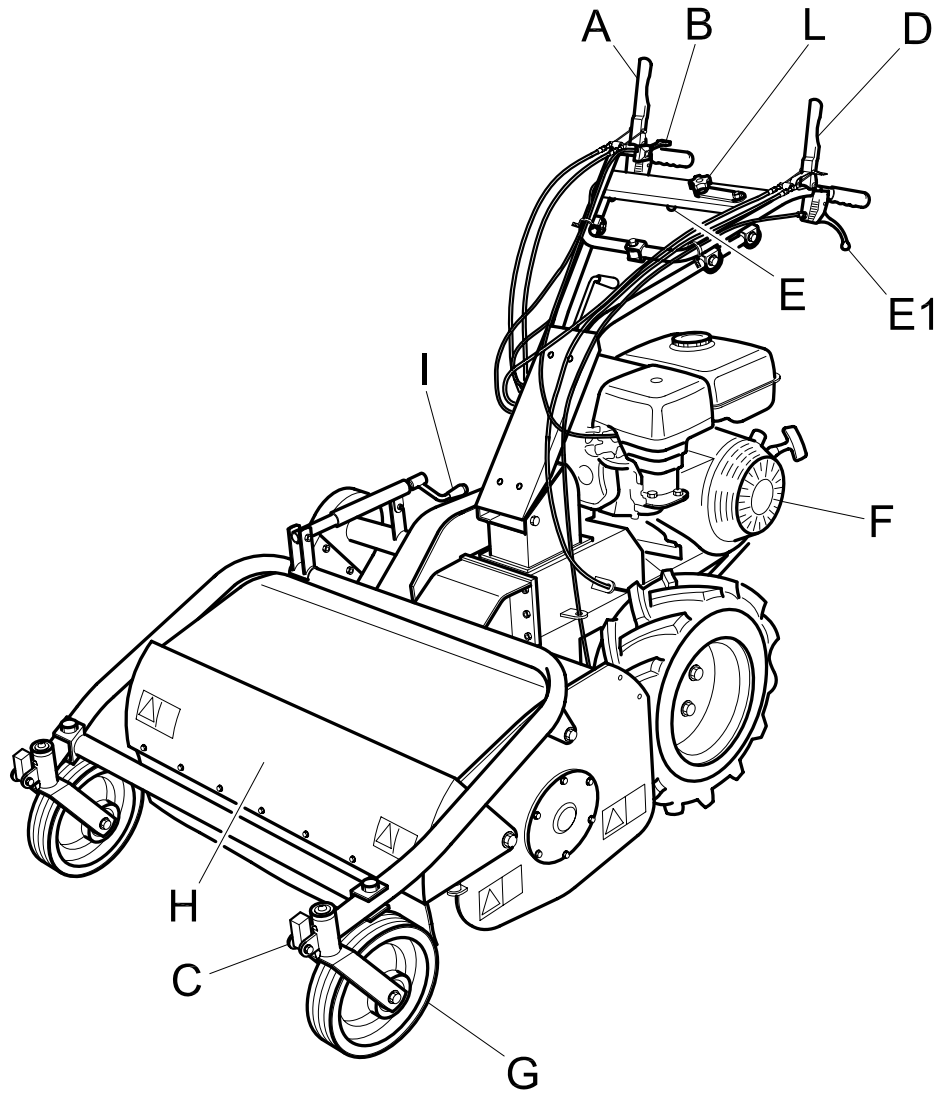
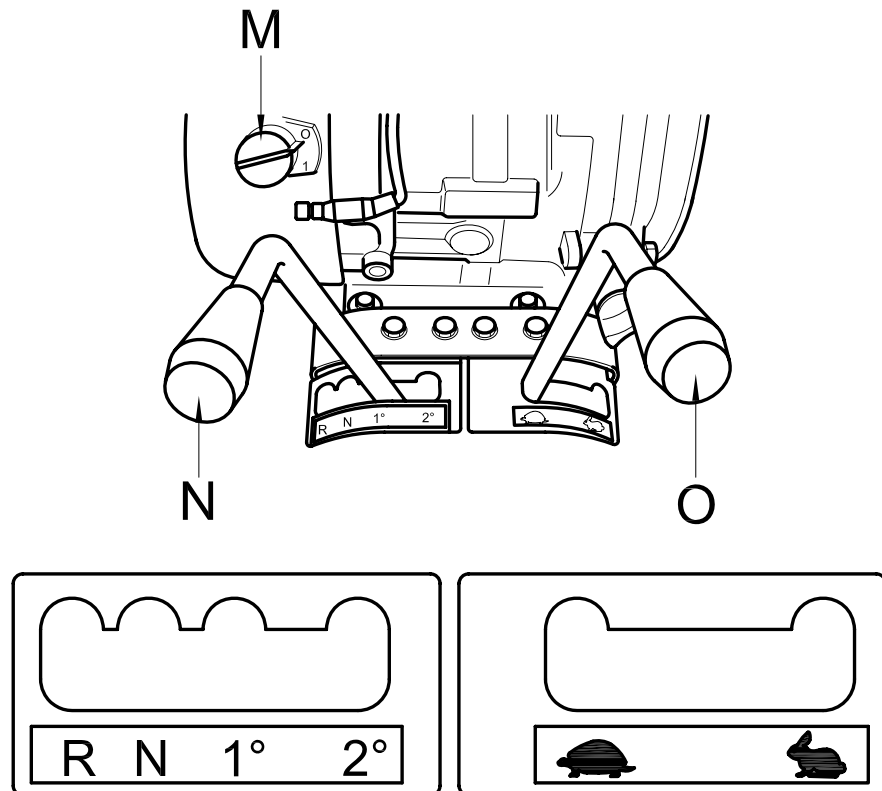

Figure 1
Figure 2
The front guard (Fig. 1 Ref. H) opens or closes automatically according to the amount of grass to be cut. Use of the machine with the guard left open is strictly prohibited. This may cause the outward projection of objects.
This handle is used to select the speed of the machine (slow/fast). Used in conjunction with the gear selector handle (Fig. 2 Ref. N) it offers 4 forward gears and 2 reverse gears.
Before operating the slow/fast speed handle (Fig. 2 Ref. O), the gear selector handle (Fig. 2 Ref. N) should be put into neutral gear (N). Then select the desired gear.
WHEN WORKING ON GRADIENTS ONLY USE THE SLOW SPEED BY KEEPING THE SLOW/FAST CONTROL HANDLE IN THE „SLOW” POSITION (Fig. 2)
Be sure to set the handle positions correctly (Fig. 2 Ref. N and O), making sure that the handles are correctly engaged; if they are not, engage the forward clutch lever momentarily (Fig. 1 Ref. A) so that the speed setting engages correctly. The above operation may prove particularly useful during the machine's first working hours.
- Before switching on the engine make sure that both engagement levers (forward clutch control lever - Fig. 1 Ref. A and flail clutch control lever - Fig. 1 Ref. D) are in the disengaged position (released) ; the service brake will be on automatically; then place the gear handle in neutral (see Fig. 2 Ref.N)
- The guard in front of the flails (Fig. 1 Ref. H) must always be closed while the machine is in use.